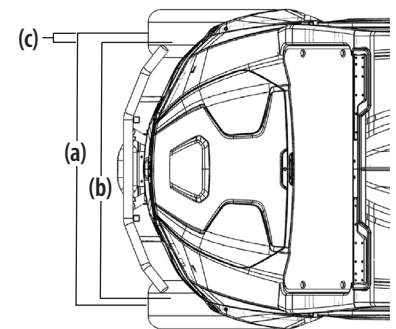

Figure 5-35
4. Measure the distance between the center of the front tires at hub height on the front (a) and rear (b) of the tires. See Figure 5-35.